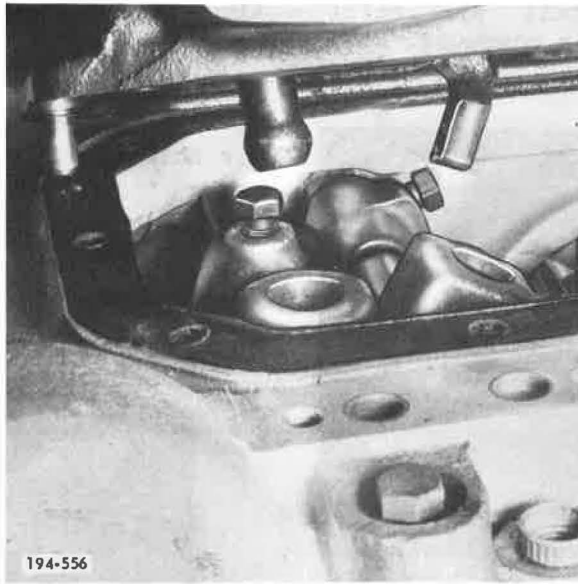

Figure 428. Installing Cover
11. Install air shift cover, being careful that shift levers engage shift forks. See Figure 428.